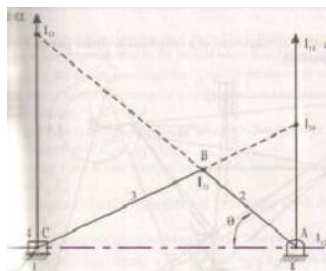

Fig. 2.7
3. Locate all the instantaneous centers for the slider and crank mechanism shown in the fig.2.7